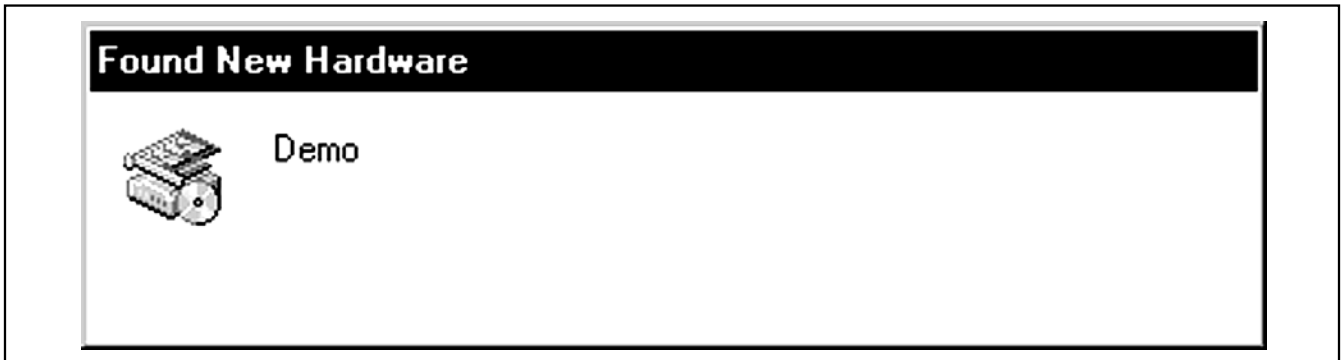

Figure 1. Found New Hardware | Demo Window
- 5) **A Found New Hardware | Demo** window appears after plugging in the USB cable for the first time (Figure 1). Windows 2000 or higher is required.